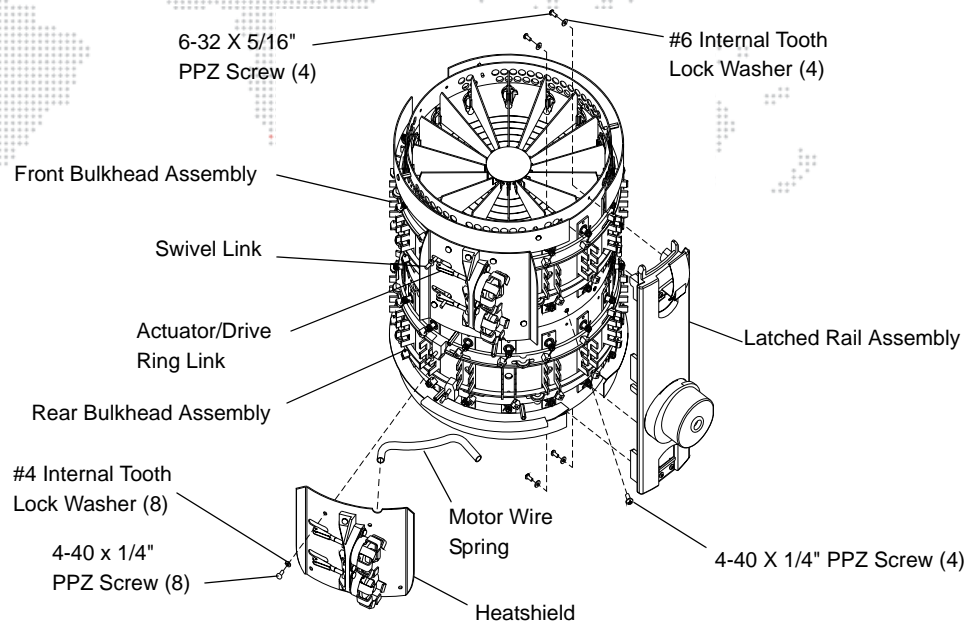

Figure 2-18: Linear Actuator Motor and Latched Rail Assemblies Replacement
- a. At linear actuator motor assemblies, using #2 slotted screwdriver, disconnect actuator/drive ring links from swivel links on drive rings. **Figure 2-18.**